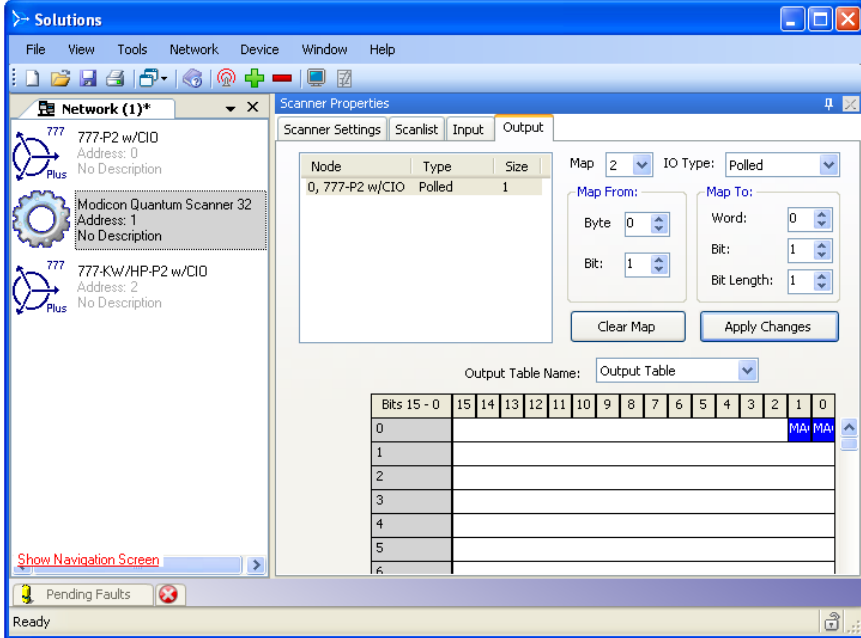

Figure 18 - Output Map
- Step 34. Repeat Step 26 through Step 33 for all parameter to be mapped. In the case of output assembly 4 there are only 2 relay bits to map as shown in Figure 18.